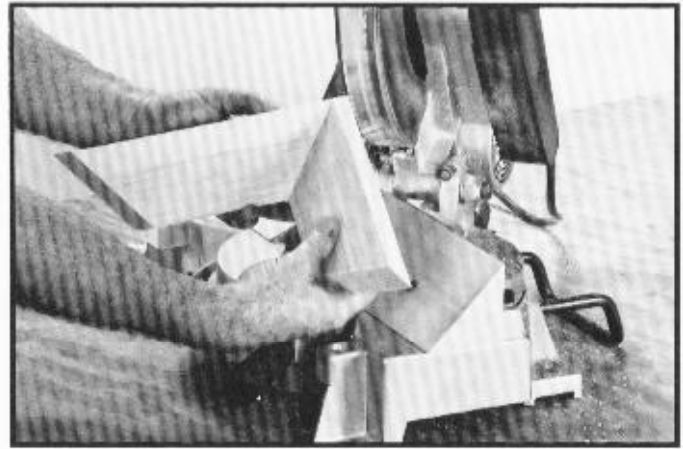

Fig. 48
6. The two compound miter cuts that were just made are shown in Fig. 48.